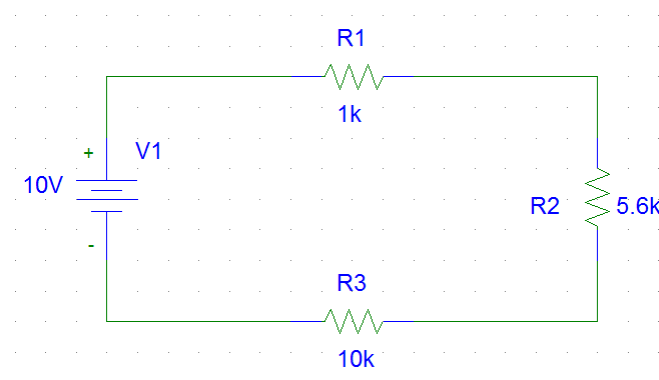

Fig. 1
- Connect the resistors R_1 , R_2 and R_3 in series to a DC power supply as shown in Fig 1.